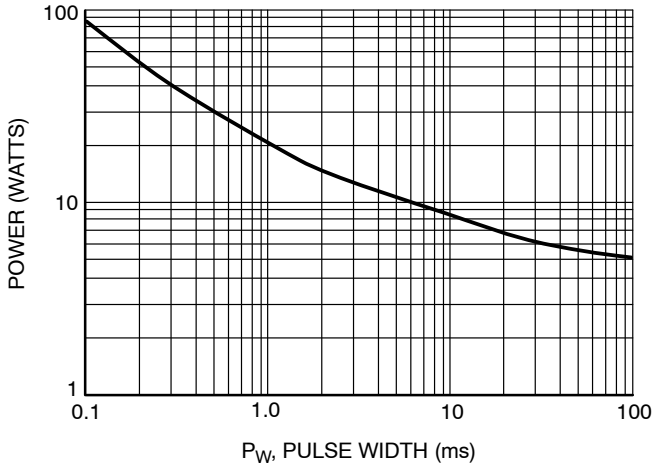

Figure 12. Maximum Non-repetitive Surge Power vs. Pulse Width
2. For different square pulse durations, see Figure 12.